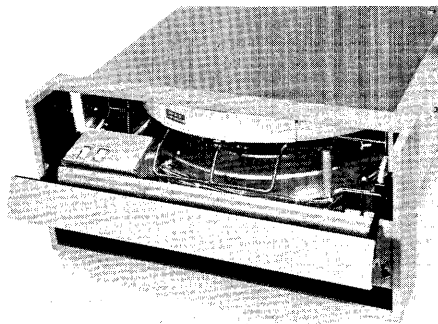

Figure 3-3. Cartridge Inserted, Front Load Models
- (4) Press the cartridge slowly but firmly most of the way into the receiver; relax the grip on the cartridge handle and press the cartridge fully into the receiver, seating it completely within the receiver as shown in Figure 3-3.
- (5) Close the door on the front of the drive by moving the door handle (top of the front bezel) up and toward the drive. As the door is closed, the cartridge will be positioned onto the spindle.